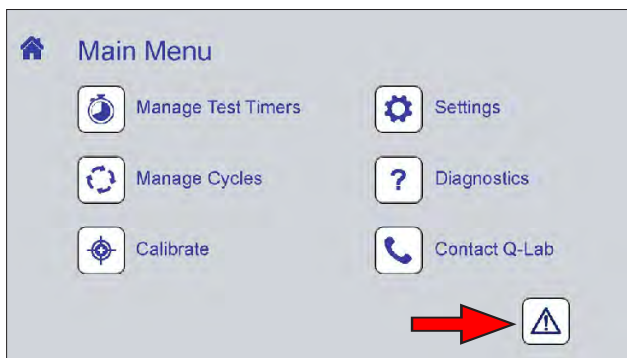

Figure 11.4a: The notifications icon. Icon color changes depending on notification status.
- On the Main Menu screen, touch the notification icon to display the Notifications Screen (Figure 11.4a).